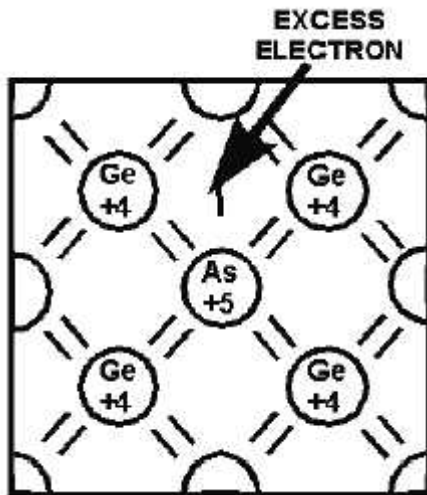

Figure 1-10.—Germanium crystal doped with arsenic.
N-Type Semiconductor The N-type impurity loses its extra valence electron easily when added to a semiconductor material, and in so doing, increases the conductivity of the material by contributing a free electron. This type of impurity has 5 valence electrons and is called a PENTAVALENT impurity. Arsenic, antimony, bismuth, and phosphorous are pentavalent impurities. Because these materials give or donate one electron to the doped material, they are also called DONOR impurities. When a pentavalent (donor) impurity, like arsenic, is added to germanium, it will form covalent bonds with the germanium atoms. Figure 1-10 illustrates this by showing an arsenic atom (AS) in a germanium (GE)